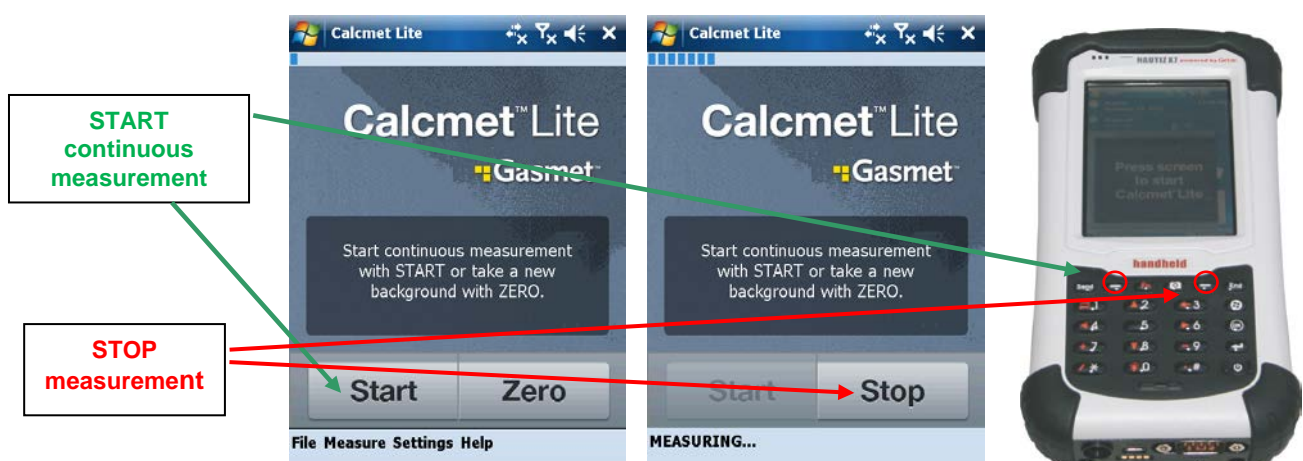

Figure 20. START - STOP measurement.
The actual measurement can be initiated by pushing the START button on the PDA display, which will begin a continuous measurement cycle (Figure 20). For example, when using a five (5) second measurement time, results (or sample spectra) will be updated every 5 seconds. It is also possible to initiate a continuous measurement by selecting Measure → Continuous. The last way to start continuous measurement is to push the upper left button on the PDA keypad (option only available with Gasmet provided PDA). A single measurement can be trigger by going at Measure → Single.